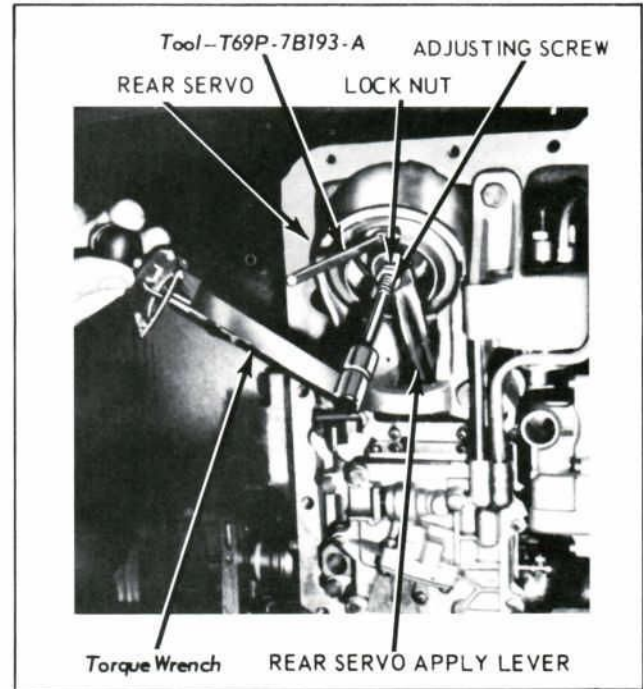

Figure 5—Adjusting Rear Band
4. Pull the adjusting screw end of the actuating lever away from the servo body, and insert the Ford spacer tool shown in Fig. 5 (or similar special tool) between the servo accumulator piston and the adjusting screw. Be sure the flat surfaces of the tool are positioned squarely between the adjusting screw and the accumulator piston. The tool must not touch the servo piston and the tool handle must not touch the servo piston spring retainer.
5. Using a torque wrench with an Allen head socket (Fig. 5), tighten the adjusting screw to 24 in.-lbs. torque.